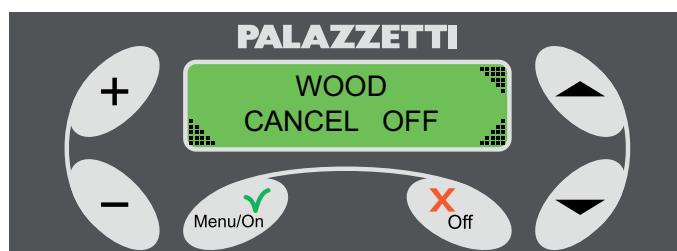

Fig. 1.5.6
It is however possible to make an immediate changeover of fuel, without waiting for the end of START-UP phase by pressing the Off button for at least three seconds. A multiple choice menu will appear (Fig. 1.5.6). Within twenty seconds, press the key “▲” to go directly to WOOD status, otherwise the fireplace will revert to the start-up phase.
- 1) press the Off button for at least three seconds to access the menu (Fig. 1.5.6);